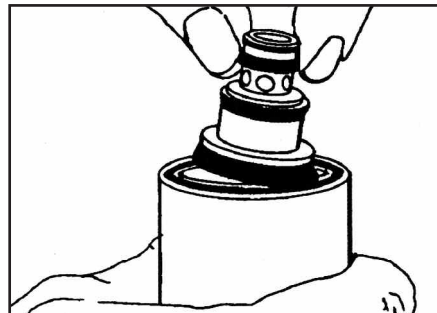

Figure 3
3. Lift out the spool with the 3 attached U-cups and the spool alignment O-ring. (Fig.3)